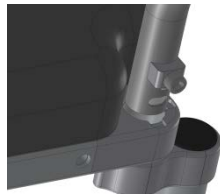

FIGURE 8
G. Install the back assembly by sliding the (2) posts of the back rest assembly into the rear seat frame holes, see Figure 7 for proper positioning. The back posts are then secured in place by tightening the internal back posts clamps with the ¼" Yellow T-Handle Allen wrench. See Figure 8 for positioning of the back posts sliding into the rear seat frame holes and the bolts that need to be tightened once the posts are slid down into place.